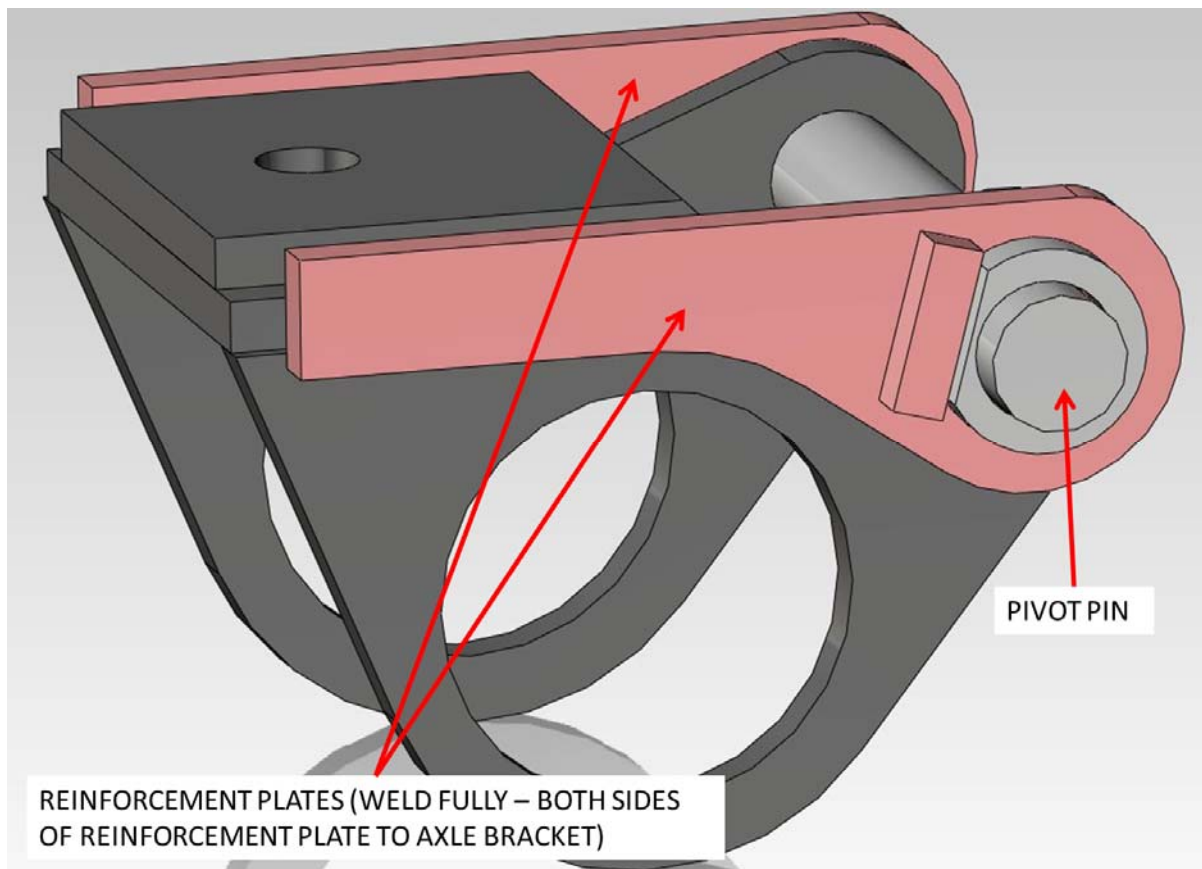

Figure 2: Front Axle Bracket with Reinforcement Plates
5. Use the axle pivot pins supplied with the kit to help locate the reinforcement plates and then weld them around fully (see Figure 2 below). Do not attach the ground lead for the welder to a railwheel.